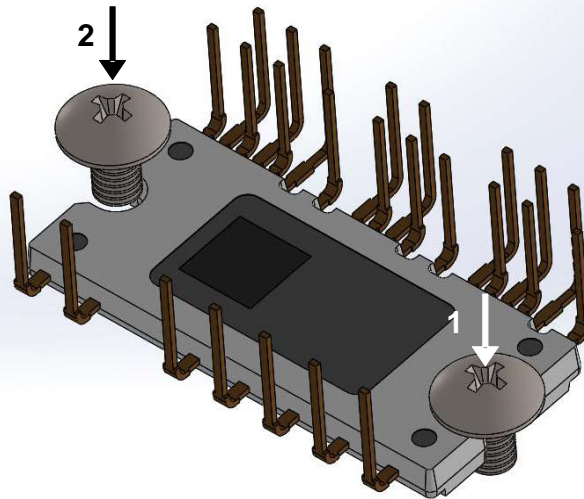

Figure 9. Mounting Screws Torque Order
7. Avoid one side tightening stress. Figure 9 shows the recommended torque order for mounting screws. Uneven mounting can cause the DBC substrate of package to be damaged. The pre-screwing torque is set to 20 ~ 30% of maximum torque rating.